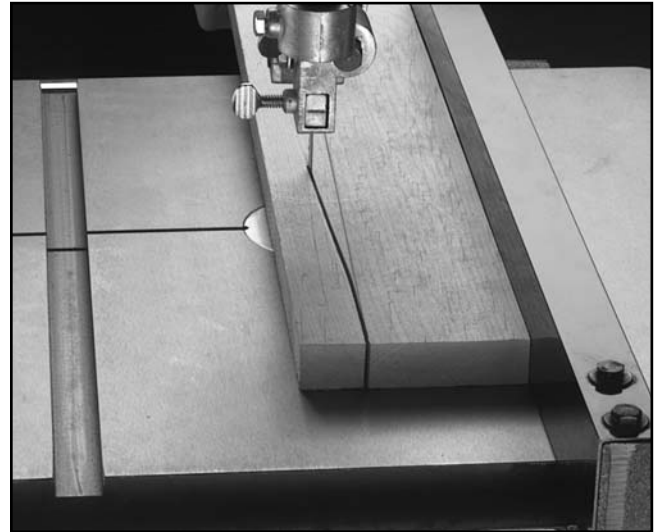

Figure 31. Blade leading away from line of cut.
Most bandsaw blades will not cut straight when using the fence or miter gauge. This is called "lead." See **Figure 31**. Lead occurs (1) if the blade tension is incorrect, (2) if the teeth are dull on one side, or (3) if the teeth are set heavier on one side of the blade than the other.